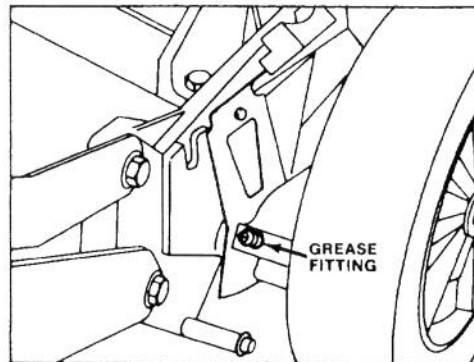

Figure 23
2. Move rear wheel height-of-cut levers to "C" setting. Wipe grease fittings with clean rag (Fig. 23). Install grease gun onto fitting and gently apply 2 or 3 pumps of #2 Multi-Purpose Lithium Base Grease. Excess pressure may damage seals.